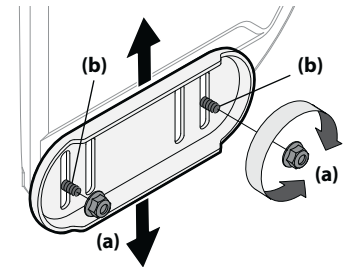

Figure 2-49
1. Loosen four hex nuts (a) (two on each side) and carriage bolts (b). Move skid shoes to desired position. See Figure 2-49.
**NOTE:** The skid shoes on your unit may look slightly different (and have different hardware) than ones shown in Figure 2-49.
Position skid shoes based on surface conditions. Adjust upward for hard-packed snow. Adjust downward when operating on gravel or crushed rock surfaces. See Skid Shoe Adjustment section on page 13 Figure 2-49.